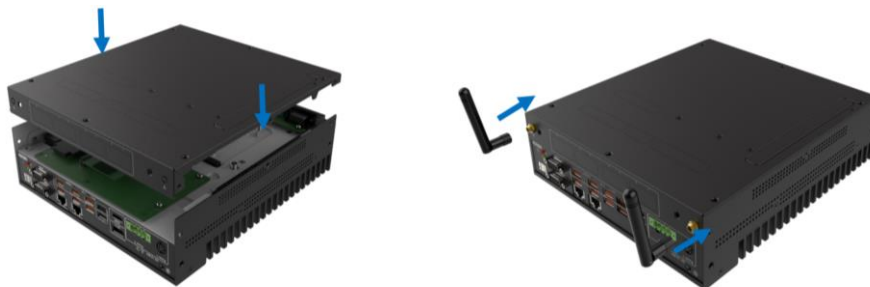

Figure 3-9: External Antenna Installation
- Step 3:** [Optional] Install the external antennas if necessary (Figure 3-9).